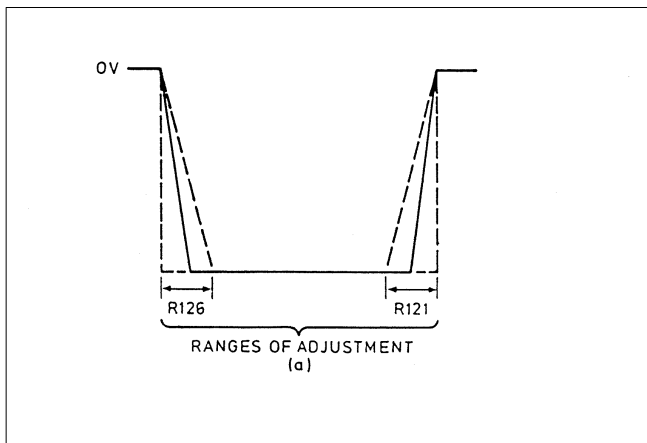

Figure 2-17 (a) Sync waveform
- Switch on and monitor the new sync waveform at the junction of C49 and R123. It should be as shown at (a) in Figure 2-17.